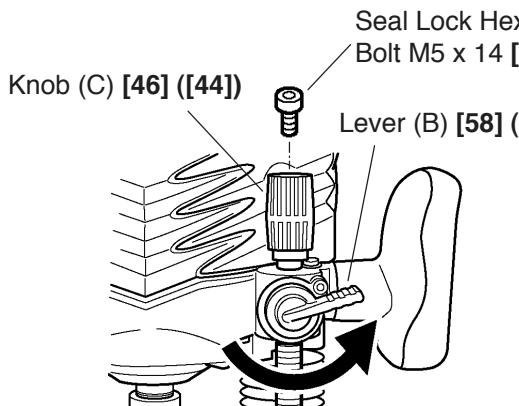
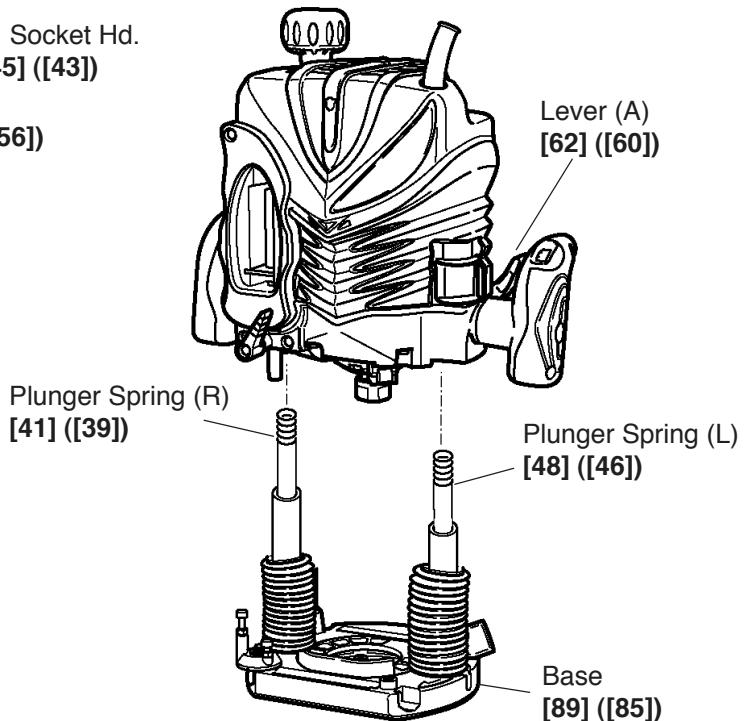

Fig. 8
Fig. 9
- (1) First, remove the bit. If further disassembly is attempted with the bit mounted on the router, it may cause damage to the cutting edges of the bit and/or serious injury to the handler.
- (2) Removal of the Base **[89] ([85])** (Fig. 8 and Fig. 9)
- (b) Turn Lever (B) **[58] ([56])** in a counterclockwise direction and lock Lever (A) **[62] ([60])**.
- (c) With a 10-mm wrench and a hex. bar wrench, loosen and remove the Seal Lock Hex. Socket Hd. Bolt M5 x 14 **[45] ([43])**, and remove Knob (C) **[46] ([44])**.
- (d) Release Lever (A) **[62] ([60])** and disassemble the Base **[89] ([85])** from the main body. As Plunger Spring (R) **[41] ([39])** and Plunger Spring (L) **[48] ([46])** are installed within the columns of the Base **[89] ([85])**, be sure to support the main body by firmly gripping the handle during disassembly.